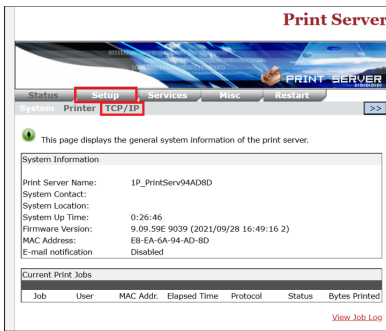

Figure 14
3. Click the **Setup** tab, then click **TCP/IP**. (Figure 14)